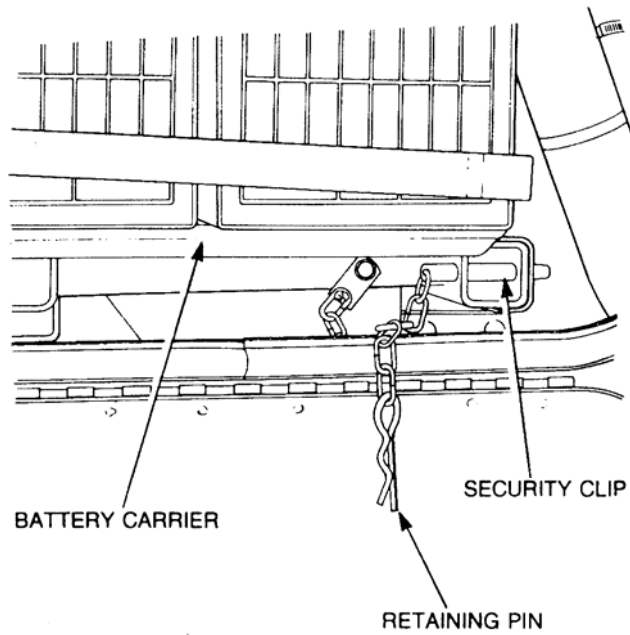

Figure 5 Left Side Battery Compartment
- c. Remove the security clip and pin from the left-hand battery carrier (Figure 5)